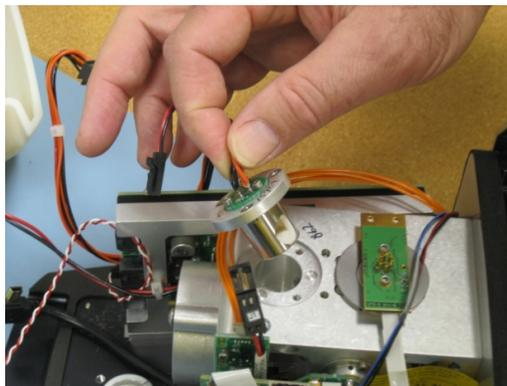

Figure 23. Removing the source assembly
- 7 Remove the source assembly from the frame (see Figure 23). Set aside the source and replace it with the new source assembly.